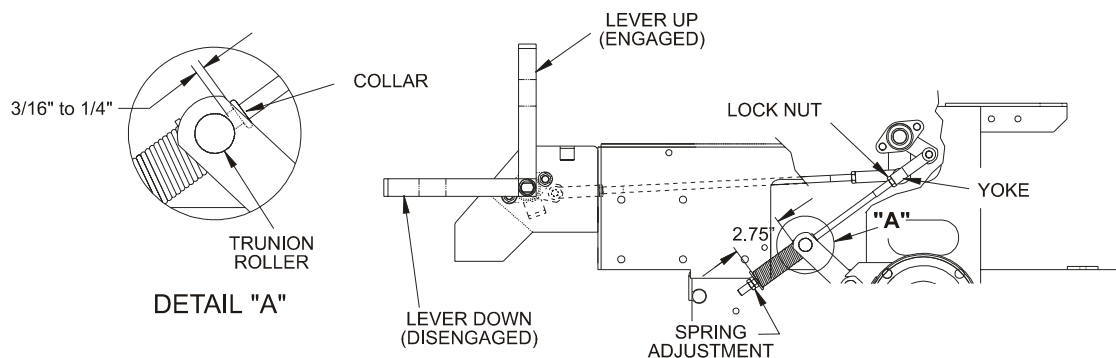

FIG. 8
- b) Measure the length of the spring. Measurement should be 2.75" between washers (see Fig 8).
- c) Measure the distance between the trunion roller and the rod collar as shown in Fig. 8A. Measurement should be 3/16" to 1/4" (See Fig 8). A 3/16" or 1/4" square key works well as a shim gauge.
- d) If adjustment is necessary, loosen the nut directly below the yoke. Turn the bottom nut(below washer) until the correct measurement is obtained (See Fig 8) turn nut clockwise to lengthen the gap (screws rod into yoke) and turn counter-clockwise to shorten the gap (screws rod out of yoke). Tighten nut against yoke and check opposite side of unit, repeat if necessary.